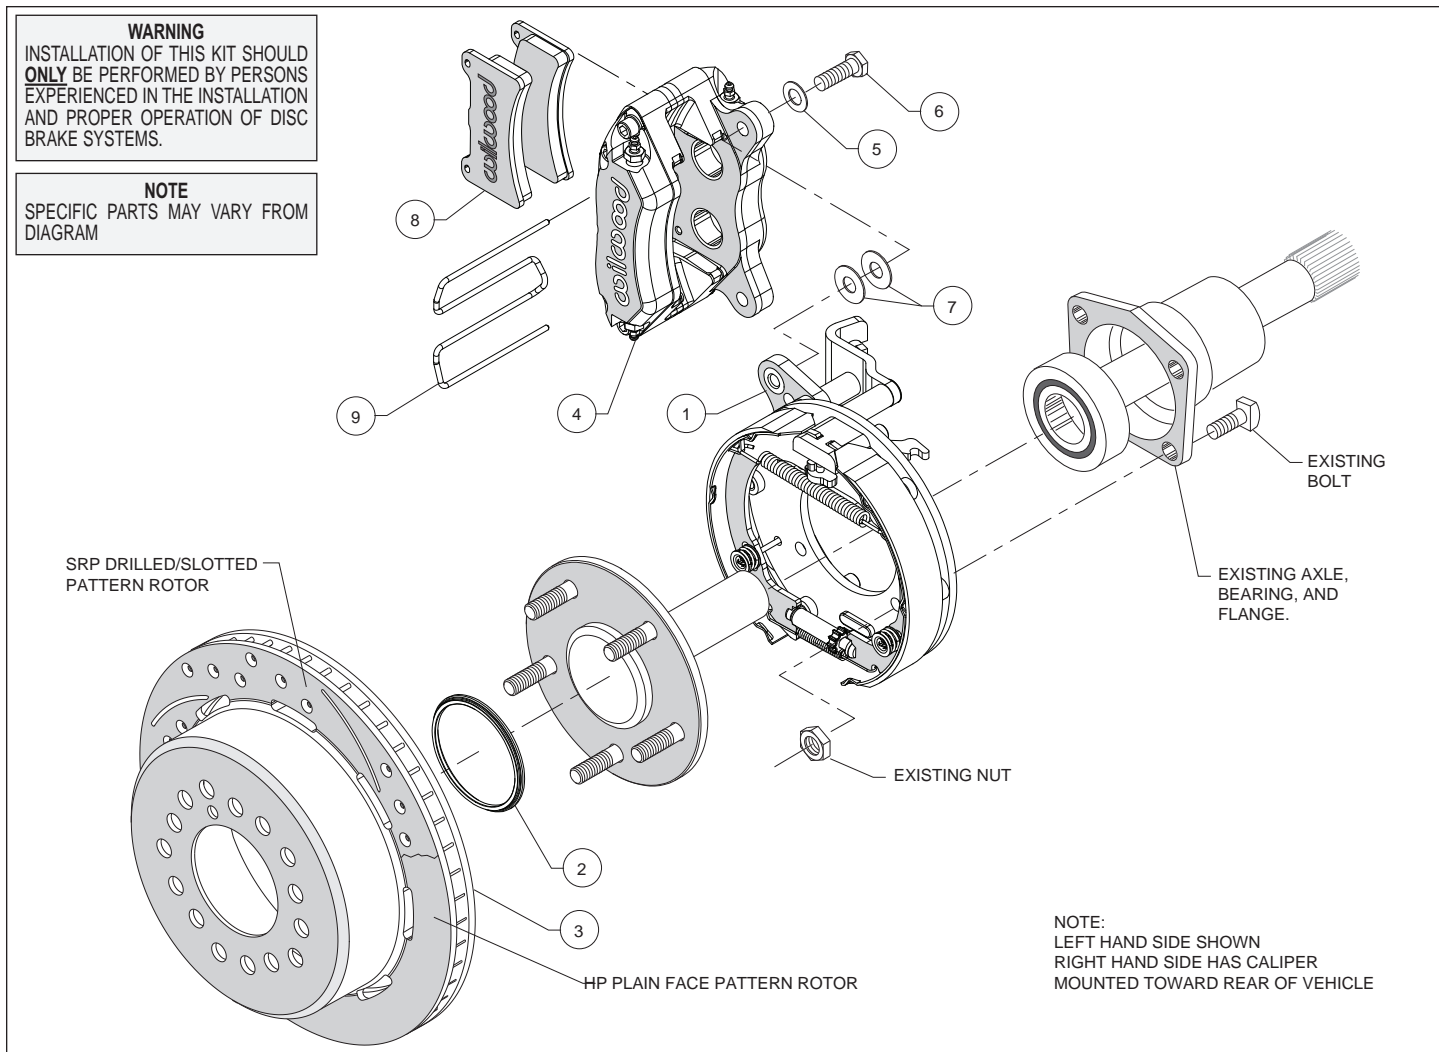
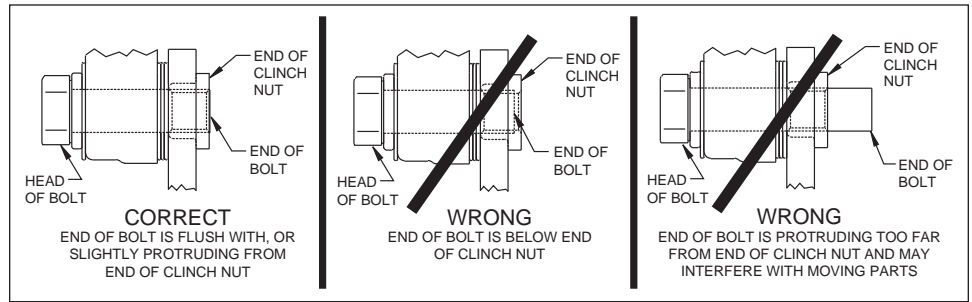

Figure 1. Typical Installation Configuration
Figure 4. Clinch Nut Engagement Diagram
Assembly Instructions (numbers in parenthesis refer to the parts list, and Figure 1 on the preceding pages): **CAUTION:** All mounting bolts must fully engage clinch nuts. Be sure to check that all bolts are either flush or protruding through flanged side of clinch nut after shimming, Figure 4.
- Orient the bracket assembly (1), as shown in Figure 1, and mount to the axle housing flange using the Original Equipment Manufacturer (OEM) bolts and nuts, Figure 1. Ensure that the bracket assembly backing plate fits flush against the axle housing flange. Apply red *Loctite*® 271 to the OEM bolt threads and torque to OEM specifications.
- Slide the rotor registration adapter (2) onto the axle register on the axle flange with the smaller O.D. facing toward the rotor/hat (3), Photo 1. Align the correct hole pattern in the rotor/hat with the stud pattern on the axle flange and slide into place, Figure 1 and Photo 2. **NOTE:** The rotor/hat must fit flush against the axle flange or excessive rotor run out may result. Install three lug nuts (finger tight) to keep the rotor/hat assembly in place while continuing with the installation. **NOTE:** Some OEM and after market axles come with stud sizes larger than 0.50" diameter. Verify stud size and have a qualified machine shop drill the bolt circle of the hat/rotor to the correct stud size, if necessary.
•**NOTE:** Please reference the caution statement at the beginning of the assembly instructions. Mount the caliper (4) onto the caliper mounting bracket (1) using bolts (6) and washers (5), as shown in Figure 1.
•Temporarily tighten the caliper mounting bolts and view the rotor (3) through the top opening of the caliper. The rotor should be centered in the caliper, Photo 6. If not, adjust by adding or subtracting shims between the bracket and the caliper. Always use the same amount of shims on each of the two mounting bolts. **NOTE:** The end of each bolt must be flush with or slightly protruding from the head of the clinch nut, as shown in Figure 4. If necessary place spare shims between washer (5) and caliper mounting ear to achieve the proper clinch nut engagement. Once the caliper alignment and clinch nut engagement are correct, remove the bolts one at a time, apply red *Loctite*® 271 to bolt threads, and torque to 40 ft-lb.
•Install the disc brake pads (8) into the caliper (4), with the friction material facing the rotor (3), and secure in place using pad clip retainer (9), Photo 7.
•**NOTE:** Clevis and cable kits which attach to the parking brake assembly are not included in the Wilwood parking brake kit. Wilwood offers a generic style parking brake cable kit, P/N 330-9371 for this application which can be ordered separately from your local Wilwood dealer or by calling Wilwood customer service at (805) 388-1188.
•Before final installation of the wheel, install three lug nuts, remove the rubber grommet in the bracket kit assembly (1) and adjust the parking brake shoes outward (using a drum shoe adjustment tool available at your local auto parts store) while spinning the rotor/hat (3) until a slight drag is felt against the hat/drum. Replace the rubber grommet when finished.